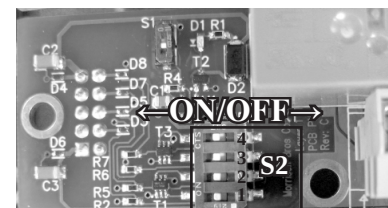

Figure 6 - Configuring the OUTPUT MODULE
- Alarm Channel:** Configures a Dry Contact Output Module to respond to specific input channels. Each Output Module may be configured to be activated by one or more input channels in any combination. This is accomplished by setting DIP switch positions one through four of S2 either ON (selecting a channel) or OFF (not selecting a channel). See **Figure 6**.
- i. Locate the four position DIP switch, S2, on the Output Module to be configured (see **Figure 6**).